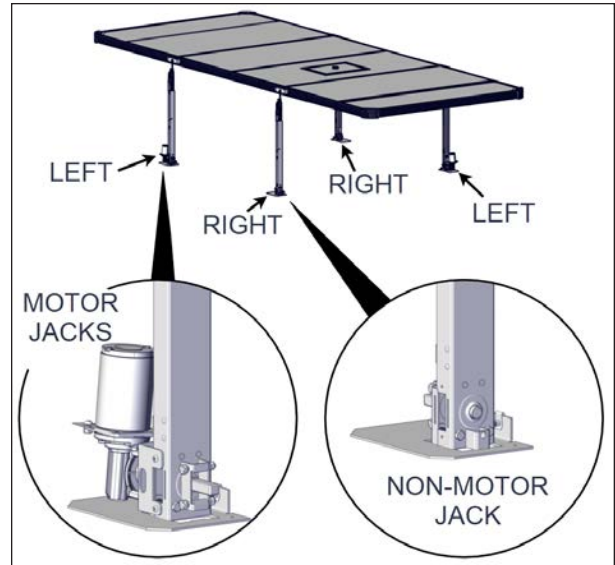

FIGURE 77: JACK POSITIONS
1. Position the jacks in their locations. Motorized jacks should always be on the left side when looking at the spa see Figure 77.